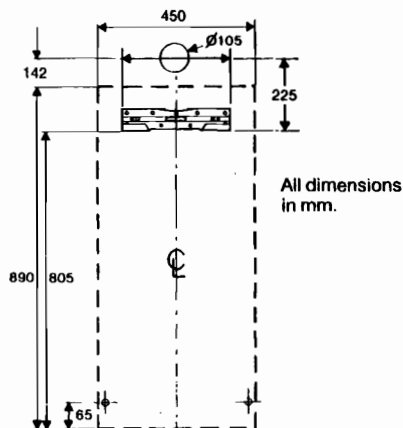

Fig. 13
5.4 Mounting the Appliance (Fig 13)
Alternatively, position bracket and holes to dimensions in fig 13.
Refer to fig. 13 and figs. 14-18 for relevant dimensions for locating the hole. Where it is remote from the boiler take special care to ensure hole is at the correct level so that the finished flue is horizontal.
- 5.5.19** When the flue and appliance are finally positioned screw the lower frame to the wall (fig. 13)